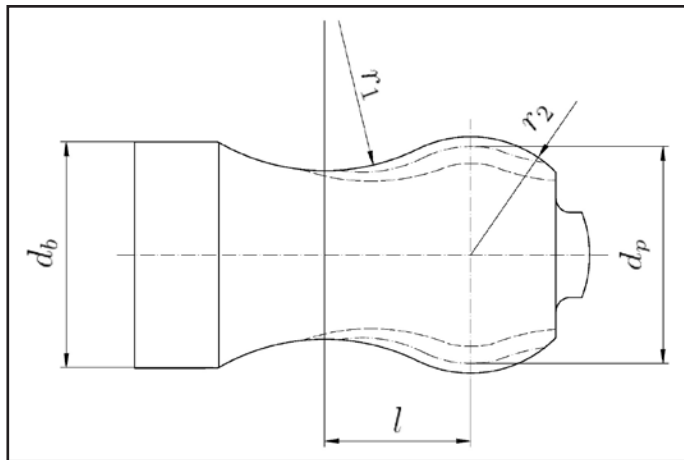

Figure 1 Spherical spline coupling geometry.
**Spline coupling geometry.** The spherical spline coupling selected for the case study has 13 teeth, 3 mm module and 30° pressure angle (ISO 4156). The circumferential backlash in aligned conditions is 2°. The pre-form part of the spline coupling (Fig. 1) is  $d_b = 40$  mm,  $l = 25.7$  mm,  $r_1 = 37$  mm y  $r_2 = 21$  mm.